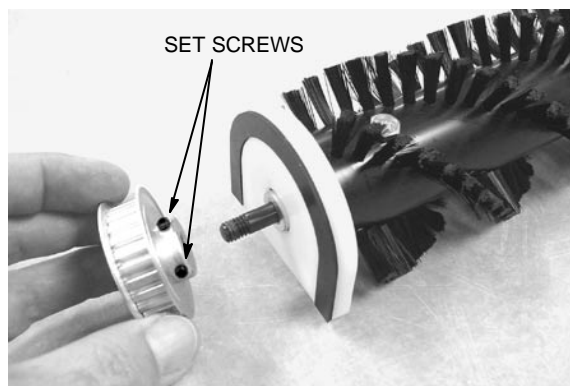

FIG. 3
3. Remove hex nut and loosen (2) set screws on pulley, then remove pulley from brush shaft – note pulley orientation (Figure 3).